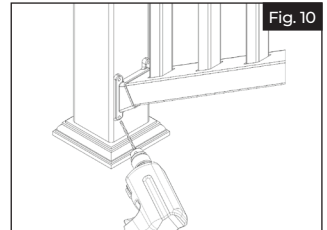
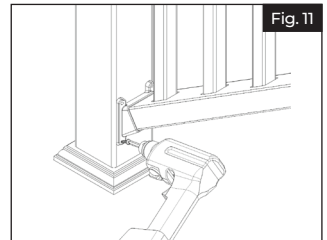

Fig. 10
Fig. 11
- a. Center rail on post. Then, using a $\frac{5}{32}$ " drill bit, pre-drill the first hole through the top rail bracket, vinyl post jacket, and into wood post (or plastic spacer of post install kit). Install the #10 x 2" square drive screws (Fig 10).
- b. Looking down from above, check to ensure screws penetrate the wood post (or plastic spacer of post install kit) (Fig 11).
Center your bracket on the post. Using the holes in the bracket as a guide, pre-drill one of the holes with an $\frac{5}{32}$ " drill bit (Fig 10). Drive one of the #10 x 2" self tapping square drive screws into the bracket (Fig 11). Pre-drill the remaining hole and drive the 2" screws into the remaining hole being careful not to overtighten. Repeat this at the top and bottom of the stairs.